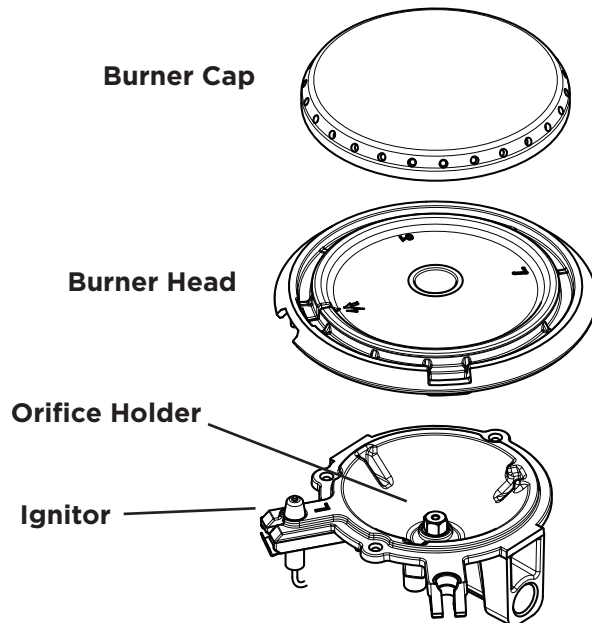

Figure 1: Burner cap, burner head, ignitor, and orifice
2. Push the burner's surface control knob in and turn counterclockwise out of the OFF position (Figure 1).